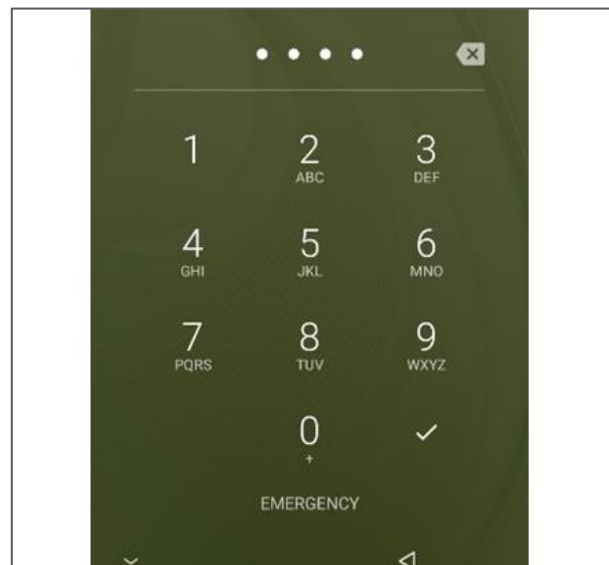

Figure 29
1. Switch on the remote device. The login screen is displayed (Figure 29).